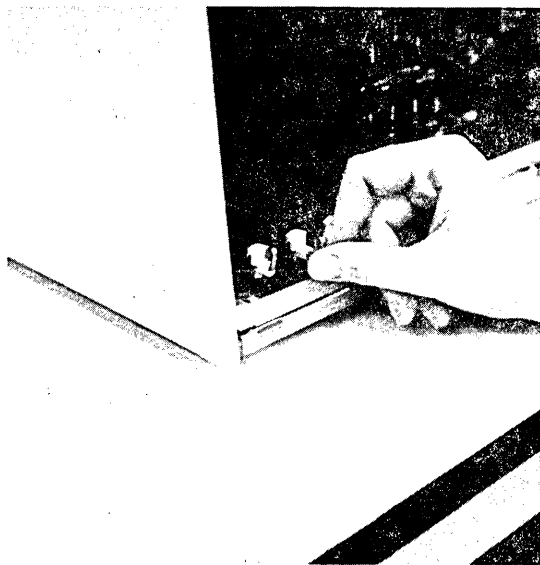

FIGURE 4
1. Pull out the metal lever extending from the plastic cap at the bottom of the card. (See Figure 4.)